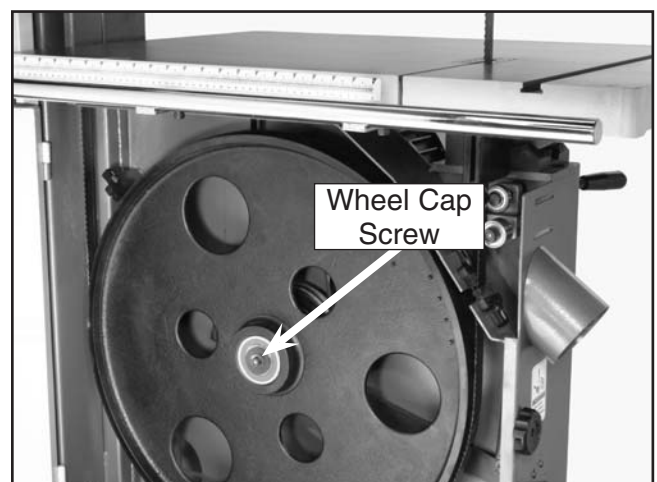

Figure 50. Wheel cap screw for removing the wheel.
5. Unthread the wheel cap screw shown in **Figure 50** and slide the lower wheel off of the bearing shaft.